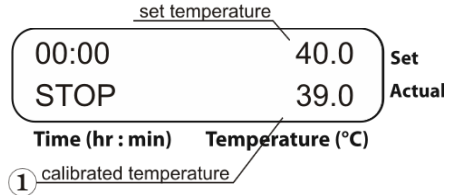

Fig. 4 Control panel in operation mode after calibration
5.4.8. The display will show calibrated temperature as shown on fig. 4/1 and the unit will continue thermal stabilization according to the previously set temperature.